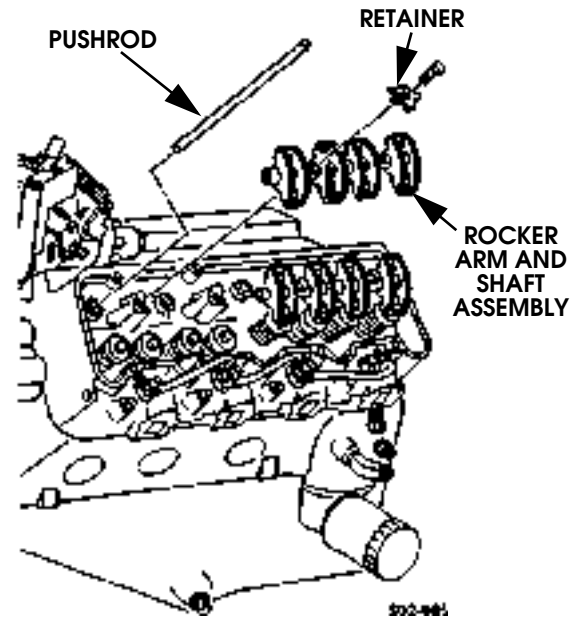

Figure 2-181: Rocker Arm and Shaft Installation
3. Align and install rocker arm and shaft assemblies (Figure 2-181). Be very sure pushrods are seated in lifter and in rocker arms. Also be sure rocker arm retainers are in place and seated.